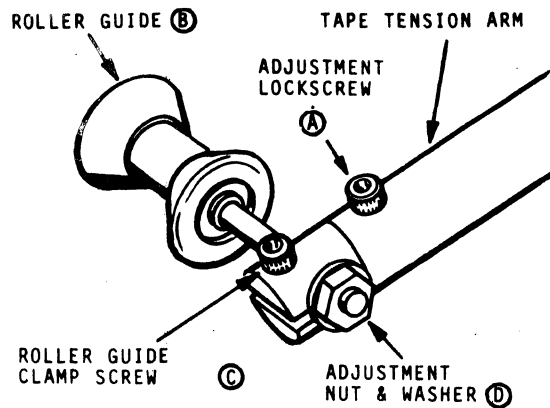

Figure 4-7. Roller Guide Adjustment
- a. Loosen roller guide split clamp screw (C) and remove roller shaft from tension arm. Do not loosen the adjustment lockscrew (A).
- b. Insert new roller guide shaft and clamp lightly by tightening split clamp screw (C).
- c. The shaft end is threaded to allow use of a nut for fine adjustment. The thread does not enter the clamp area. Place several No. 10 flat washers over the threaded end and install a 10-32 nut as shown in Figure 4-7.